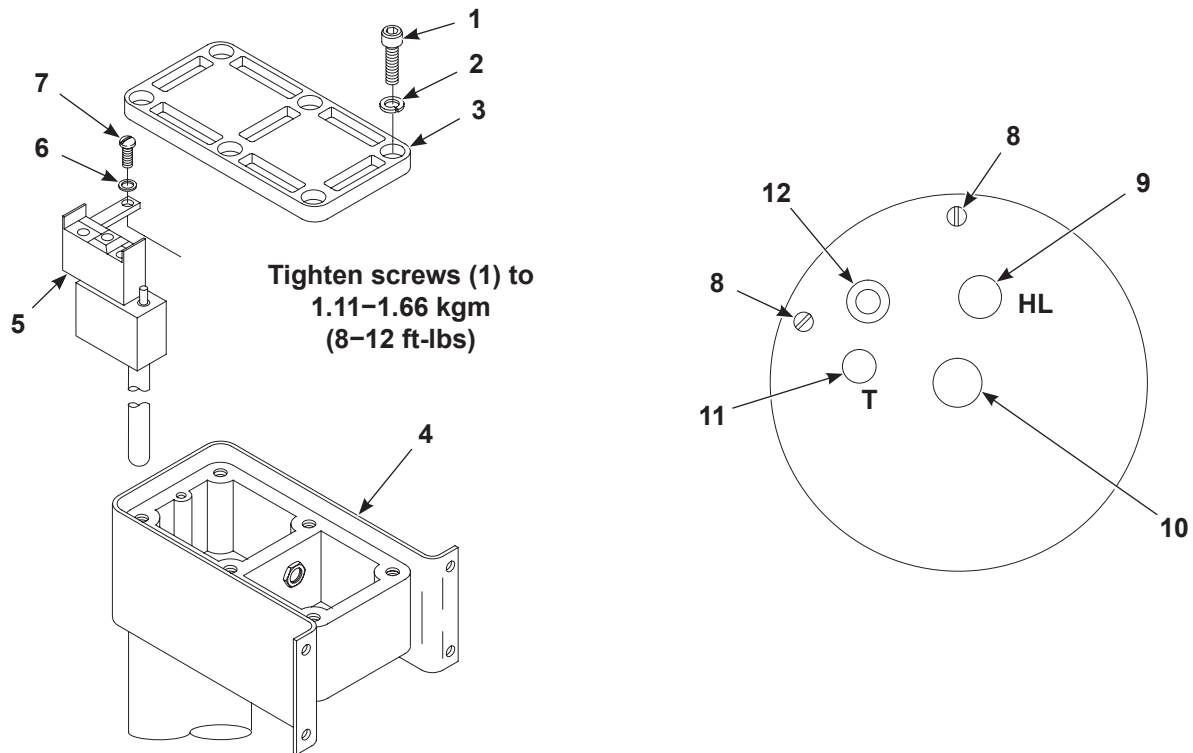

Figure 8 Thermostat Replacement
See Figure 8.
1. See Figure 8. Insert the heat conductive paste applicator (supplied with the thermostat kit) into the fluid passage body bore stamped T (4) and dispense all the paste into the bore.
3. See Figure 8. Carefully pull the heat limiter out of the HL bore (2) in the fluid passage body.
4. Install the heat limiter into the HL bore (2) in the fluid passage body.
5. See Figure 8. Loosen the set screws (1) securing the fluid heating reservoir to the electrical enclosure. Screws are visible when the enclosure cover is removed.
2. See Figure 8. Align the holes for the set screws (1). Back the fluid heating reservoir out by no more than one turn to align the holes. Install the set screws and tighten securely.